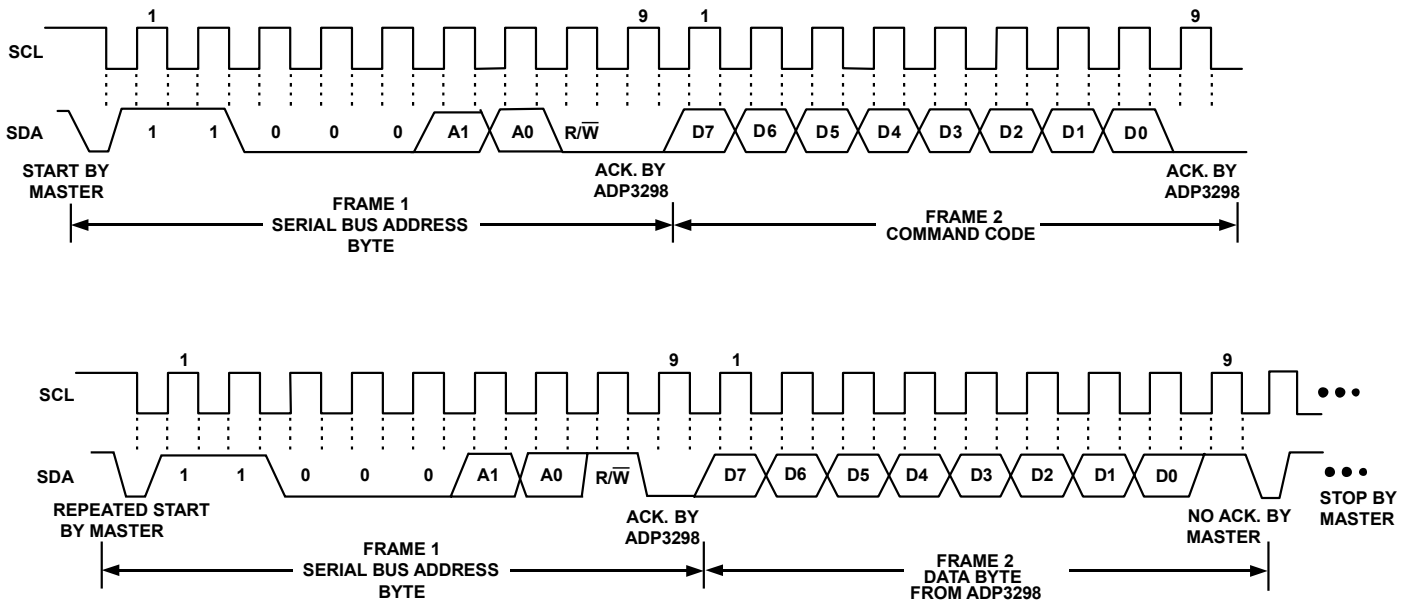

Figure 12. Read Byte
2. The read byte operation is shown in Figure 12. First the command code needs to be written to the ASP0800 so that the required data is sent back. This is done by performing a write to the ASP0800 as before, but only the data byte containing the register address is sent, because no data is written to the register. A repeated start is then issued and a read operation is then performed consisting of the serial bus address; R/W bit set to 1, followed by the data byte read from the data register.